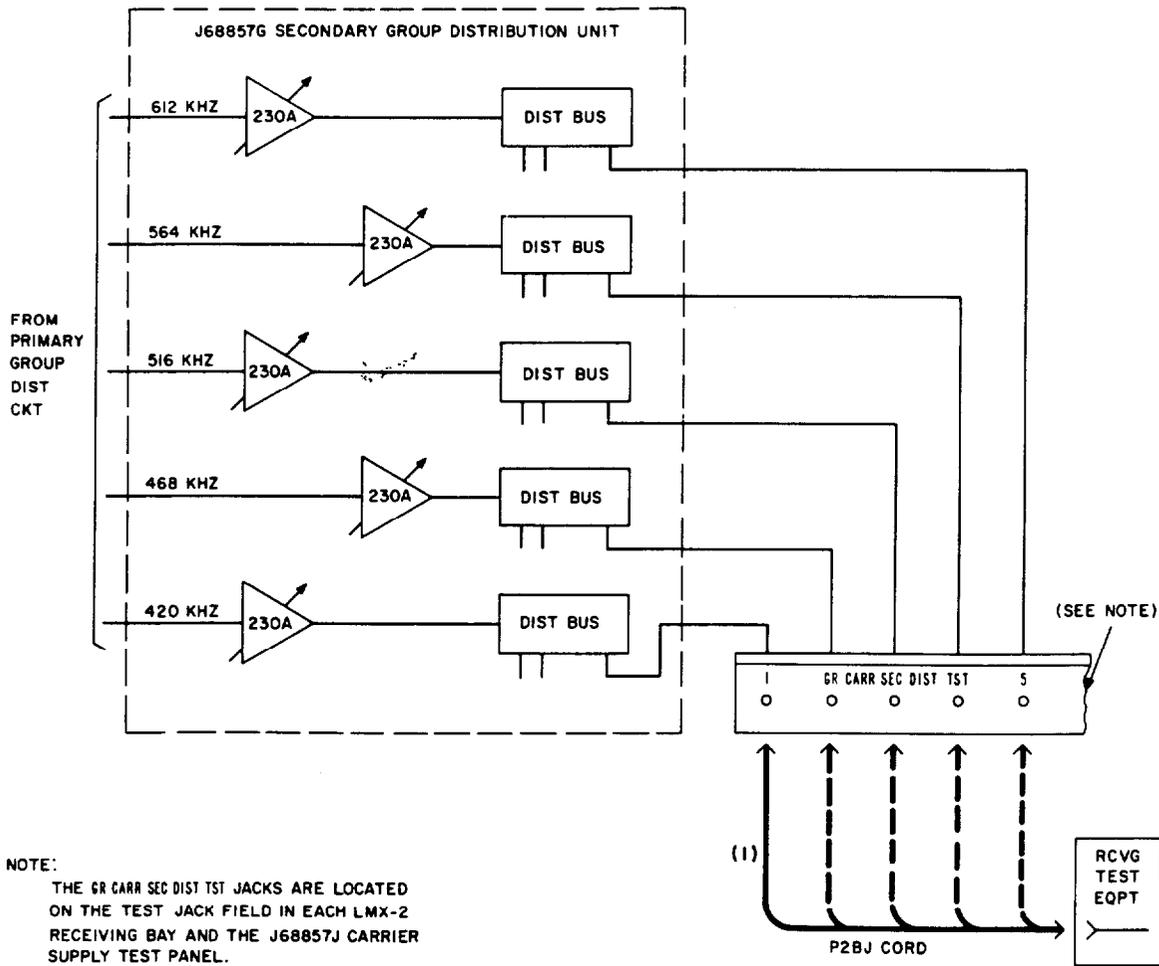

Fig. 2—Group Carrier Supply—Measurement of Secondary Group Distribution Circuit Output Power
| 2 | <p>Make patch (1) in Fig. 2 for the frequency to be tested.</p> | | | | | | | | | | | | | | | | | | | | | | | | |
| 6 | Remove patch (1) in Fig. 2. |